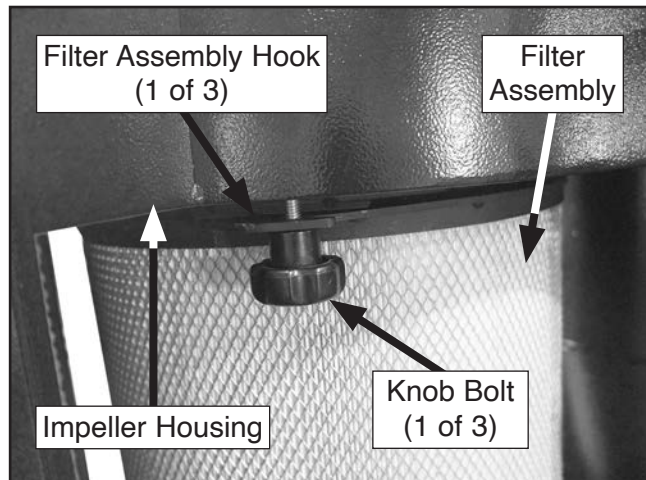

Figure 33. Canister filter assembly attached to machine body.
18. Thread (3) $\frac{3}{8}$ "-16 x 2" knob bolts halfway into impeller housing (see **Figure 33**).
19. With help from an assistant, lift canister filter assembly around filter brush assembly and twist filter counterclockwise until hooks on filter assembly nest with knob bolts (see **Figure 33**).
20. Fully tighten knob bolts from **Step 18** (see **Figure 33**).